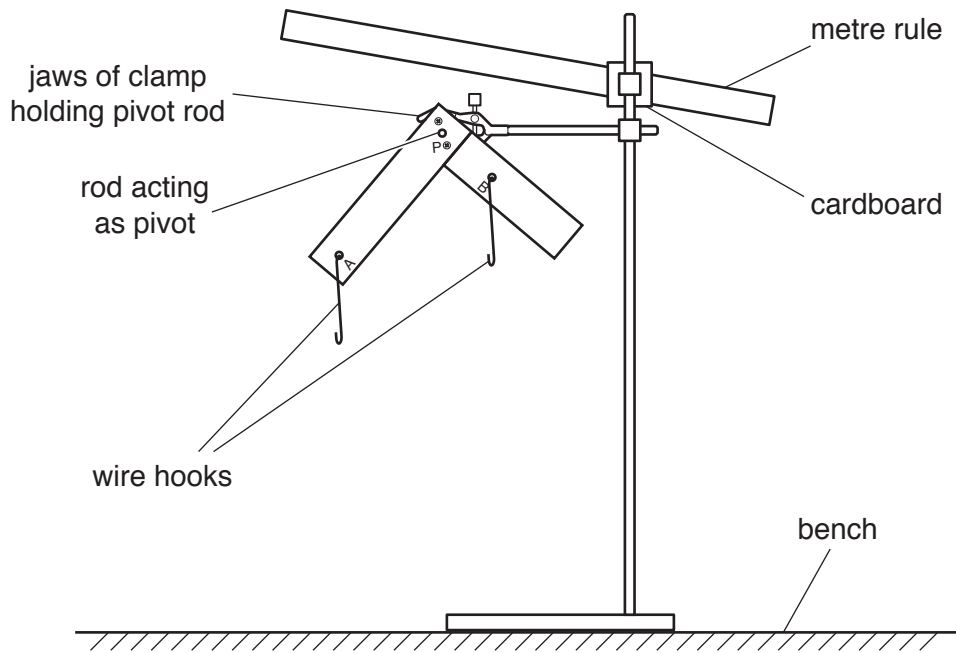

Fig. 2.2
2. The supervisor should set up the apparatus as shown in Fig. 2.2.
At the changeover the supervisor should ensure that the apparatus is returned to the arrangement shown in Fig. 2.2 with the ruler inclined at a  $10^\circ$  angle as described in note 2.